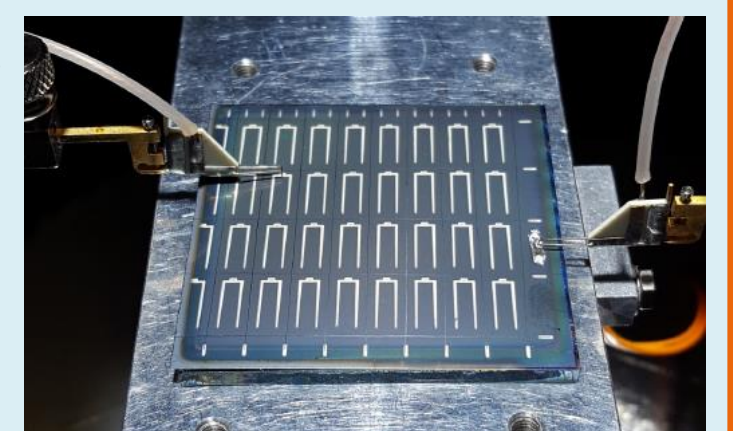

Fig. 4: IV setup
- Measured with IV-curves, setup is shown on Fig. 4.